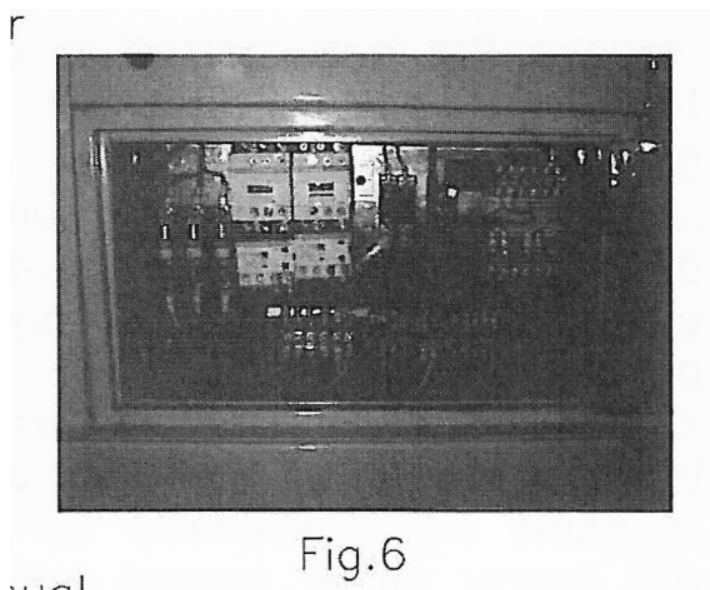

Figure 3-5: Isolator switch and electrical panel
- 1 Connect the input wires to the main terminals of the isolator switch on the electrical panel at the back of the bed, below the headstock (Figure 3-5).